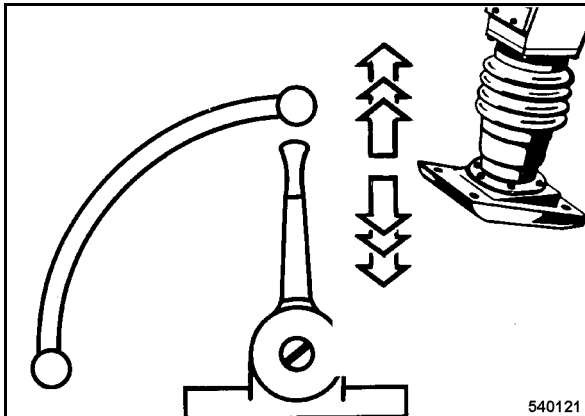

Fig. 59
- To read the maximum speed set the throttle lever to position MAX (Fig. 59).